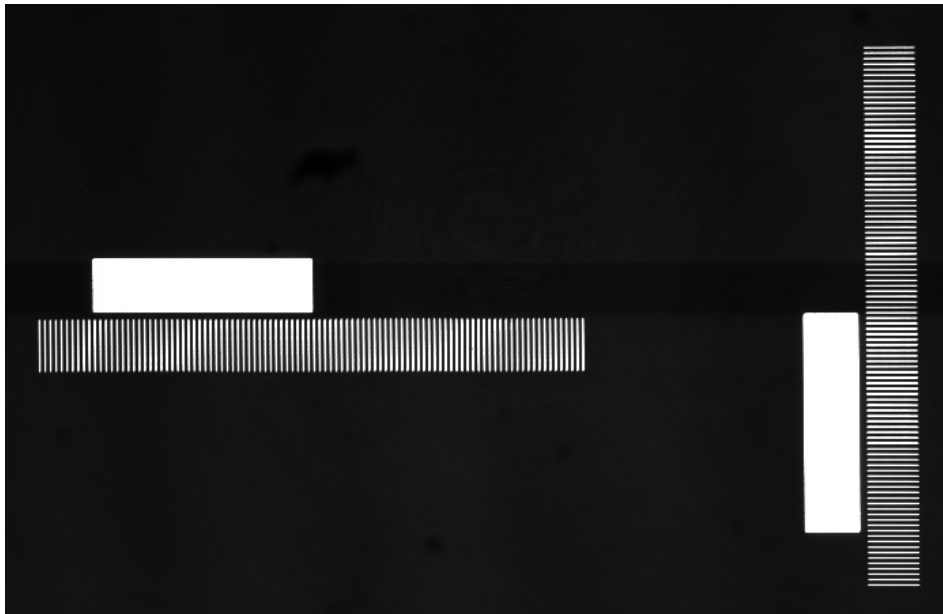

Fig. 5-249 Calibration standard
(2) Calibration conditions
- A special sample (see Fig. 5-249) with two identical but 90 degrees rotated gratings (one for each scan direction) has to be used as a calibration standard.
(3) Calibration procedure